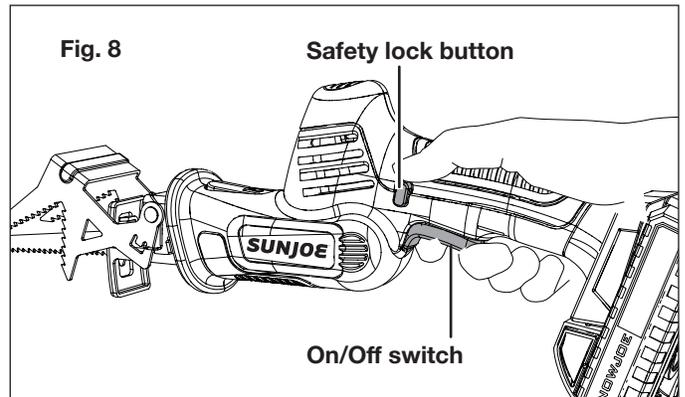

Fig. 8
2. To start the tool, first press and hold the safety lock button, then squeeze the On/Off trigger (Fig. 8). When the machine is running, release the safety lock button.